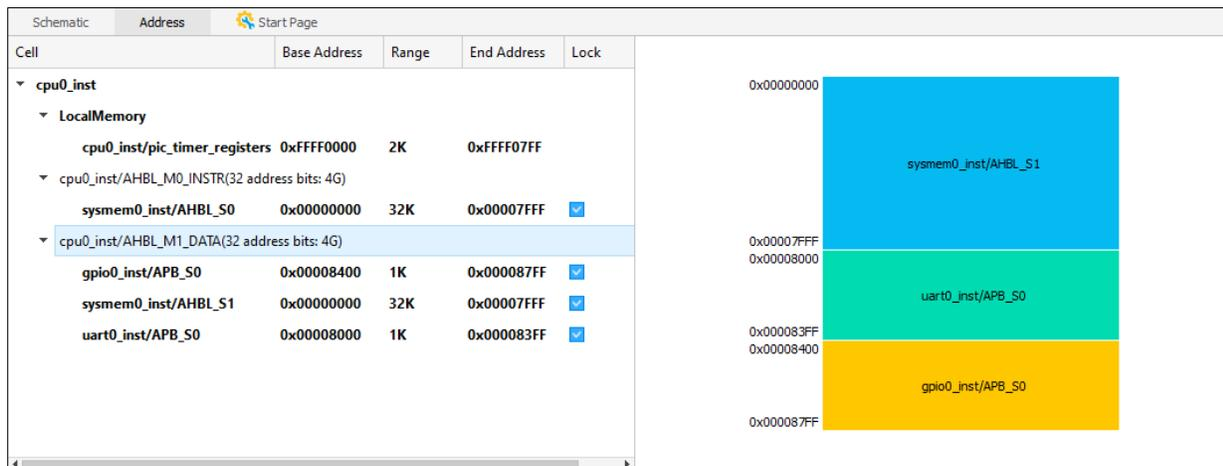

Figure 2.66. Address View
1. In the Propel Builder main window, click the Address tab. The Address view (Figure 2.66) shows.